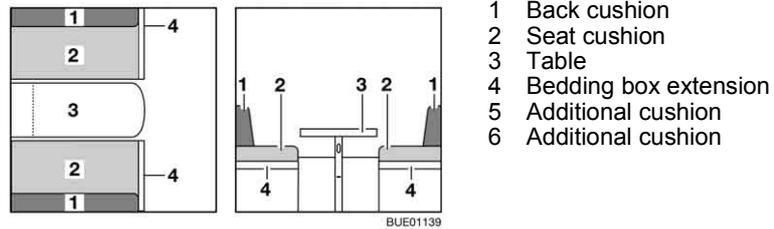

Fig. 91 Prior to conversion
- Convert the table (Fig. 91,3) to a bed foundation (see section 6.11).
- Unfold the bedding box extension (Fig. 91,4).
- Remove the back cushions (Fig. 91,1) and lay them aside.